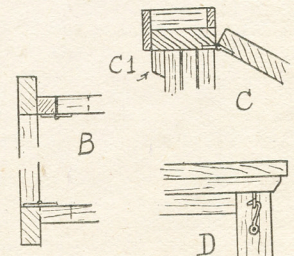

Fig. 3—Detail of hanging and fixing
The end edges of these battens should be bevelled off a little to look as inconspicuous as possible. With the frames butting up against the battens, fix a screw-eye and hook, as in detail (D), Fig. 3, to keep all in position. The table should now be quite firm for any modelling work to be done on it.